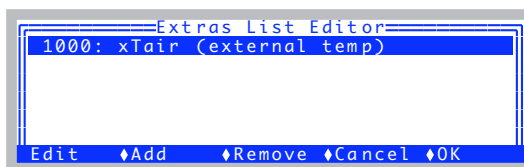

Figure 16-54. Added xTair to the Extras List Editor.
When done, press **f5 (OK)**, and the Extras List Editor will look like Figure 16-54.